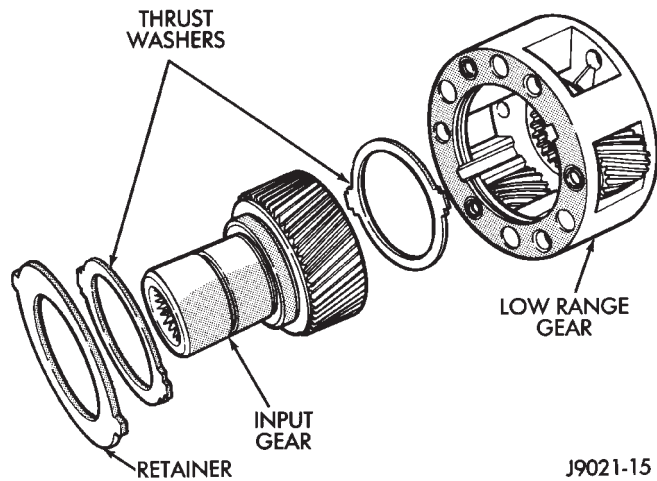

Fig. 27 Input And Low Range Gear Components
- (39) Remove retainer, thrust washers and input gear from low range gear (Fig. 27).
- (40) Remove oil seals from rear retainer, rear extension housing, oil pump feed housing and case halves.
- (41) Remove magnet from front case.
- (42) Remove the speedometer driven gear, seals and adapter.